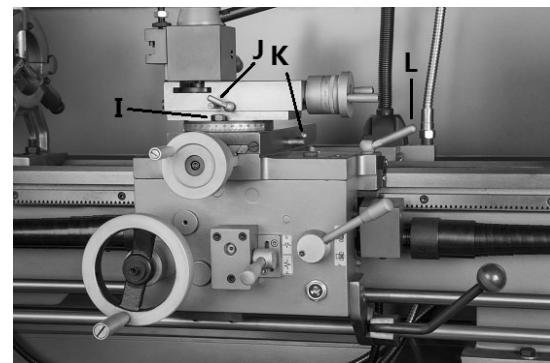

Figure 9-3
17. **Compound Rest Lock** (I, Figure 9-3) – Turn hex nut clockwise to lock and counter-clockwise to unlock.